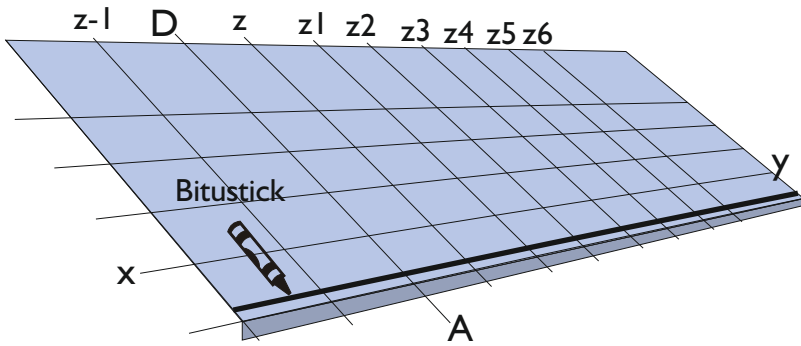

Fig. 2 - Bitustik
- Apply a line of bituminous mastic “Bitustick” along the eaves (Fig. 2).